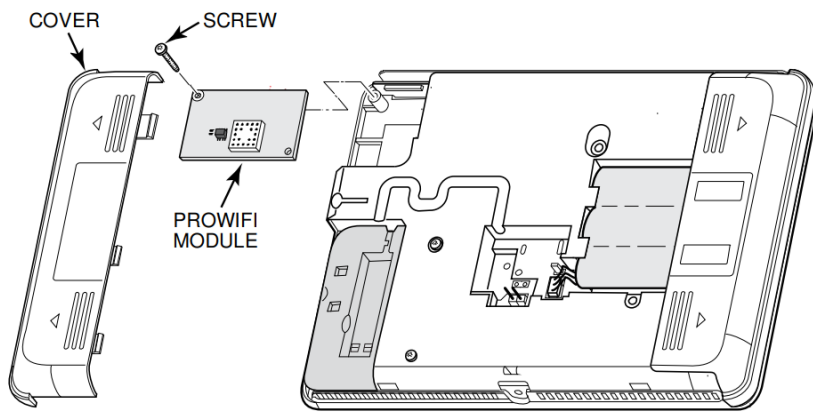

Figure 2. Installing the PROWIFI Module
8. Insert the PROWIFI module into the slot on the left side of the control as shown in Figure 2 and ensure the receptacle is securely seated on the control's edge connector.